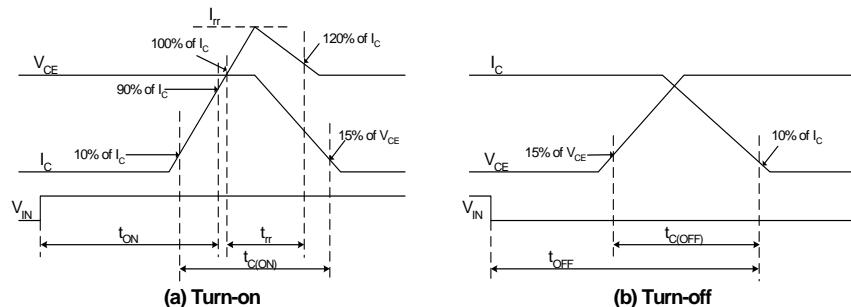

Fig. 4. Switching Time Definition
1. t_{ON} and t_{OFF} include the propagation delay time of the internal drive IC. $t_{C(ON)}$ and $t_{C(OFF)}$ are the switching time of IGBT itself under the given gate driving condition internally. For the detailed information, please see Fig. 4.